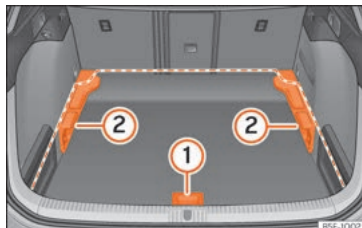

Fig. 193 Variable boot floor: position.
- Lift the floor using handle »» **Fig. 193** ① and pull it back until the front of the floor has fully passed the supports ②.
- Move the floor forward over the supports as far as the rear seat backrest and then lower the floor with the handle ①.
- Now match the front part with the lower grooves of the supports and slide the floor forwards as far as the rear seat backrest and lower the floor at the same time with the handle ①.
» Fig. 193 ① and pull it back until the front of the floor has fully passed the tilted grooves